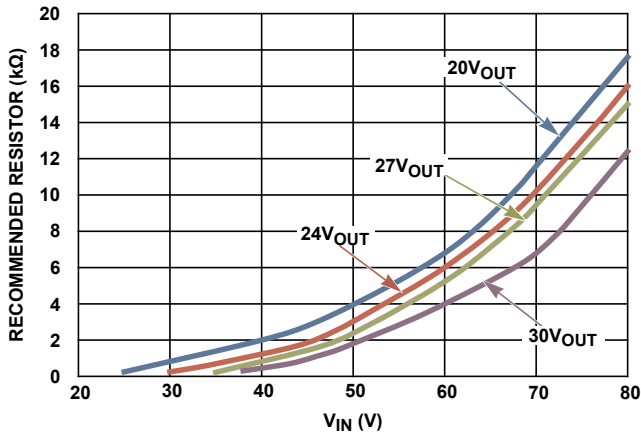
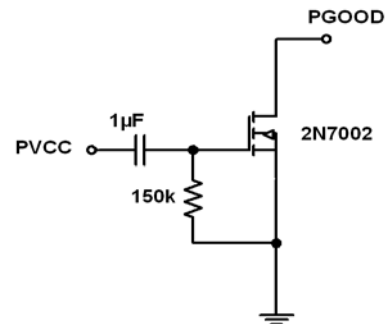

FIGURE 23. RECOMMENDED EXTERNAL RESISTOR VALUE FROM BOOT TO PVIN
FIGURE 25. PGOOD DELAY CIRCUIT
The internal bootstrap diode connected to the PVCC pin provides charge for the internal bootstrap capacitor. For above 12V_{OUT} applications, a resistor connecting between BOOT pin and VIN pin is recommended for certain conditions. Refer to Table 3. This resistor provides additional bootstrap charge introduced from V_{IN} , which can ensure the gate drive circuit functions properly at very light load. See Figure 23 for the recommended external resistor values at 20V_{OUT}, 24V_{OUT}, 27V_{OUT}, and 30V_{OUT} conditions. A minimum 0.25W power rating is recommended for this resistor.
For >12V_{OUT} applications where V_{IN} power-up/down (module self enable/disable) is required and PGOOD signal is utilized, a PGOOD delay circuit and a 1k Ω , 1W rating dummy load resistor are recommended. The PGOOD delay circuit is shown in Figure 25. Note when the dummy load resistor is used, the resistor between V_{IN} and BOOT (Figure 23) is no longer required. During V_{IN} power-up (module self enable) for >12V_{OUT} applications at very light load current, without such a delay circuit, V_{OUT} may have a drop after initially reaching the target due to the lack of bootstrap charge. With such a delay circuit, the PGOOD signal can be delayed for 250ms. For applications of \leq 12V_{OUT}, the PGOOD delay circuit is not required.
- Refer to Figure 23 for V_{IN} -BOOT resistor (R_{BOOT}) value.